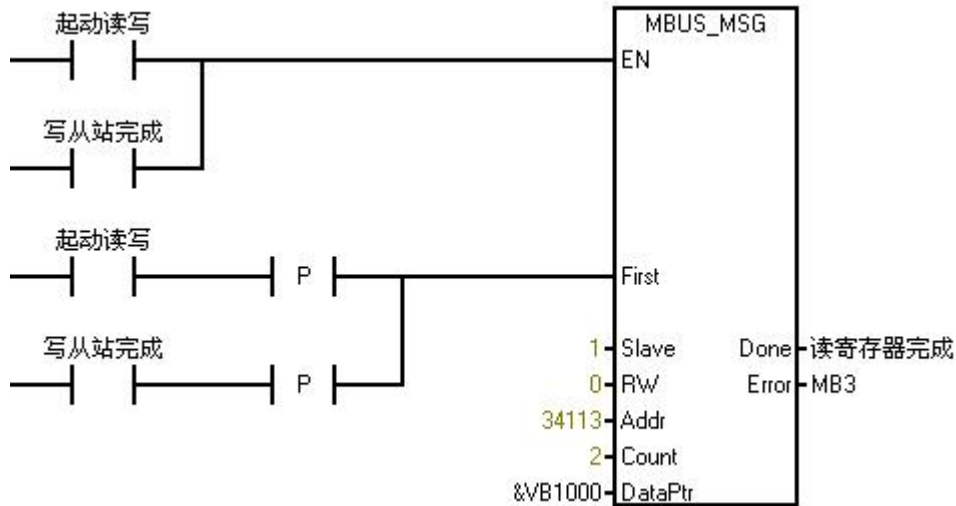

Figure F3-3 Reading Instantaneous Flow
**Step 3: Use MBUS\_ MSG reads data from the flow meter. As shown in Figure F3-3:**
VD1000 corresponds to VB1000 in Figure F3-3, representing the internal address space of the PLC to which the instantaneous flow is transmitted.